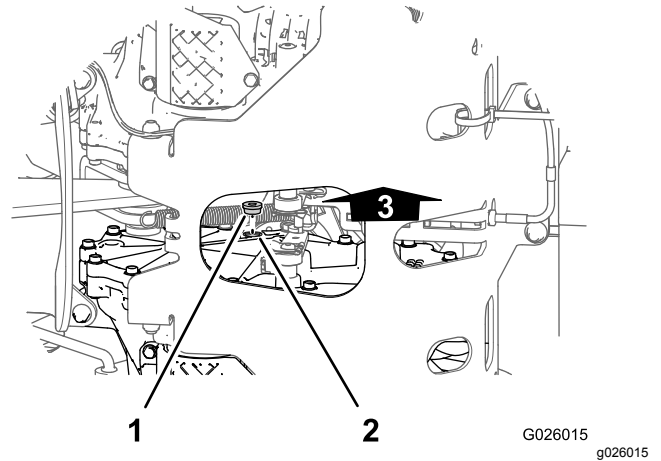
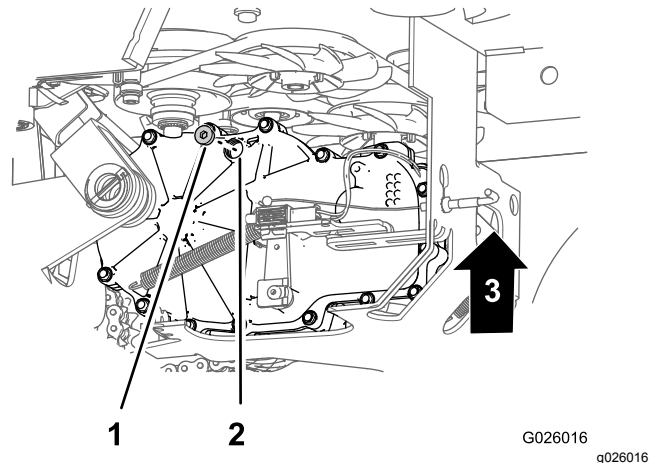

Figure 66
Figure 67
2. Align a drain pan under the sight plugs of the transmissions (Figure 66 and Figure 67).
3. At the inboard side of the transmission, near the top, remove the sight plug from 1 of the transmissions (Figure 66 and Figure 67).